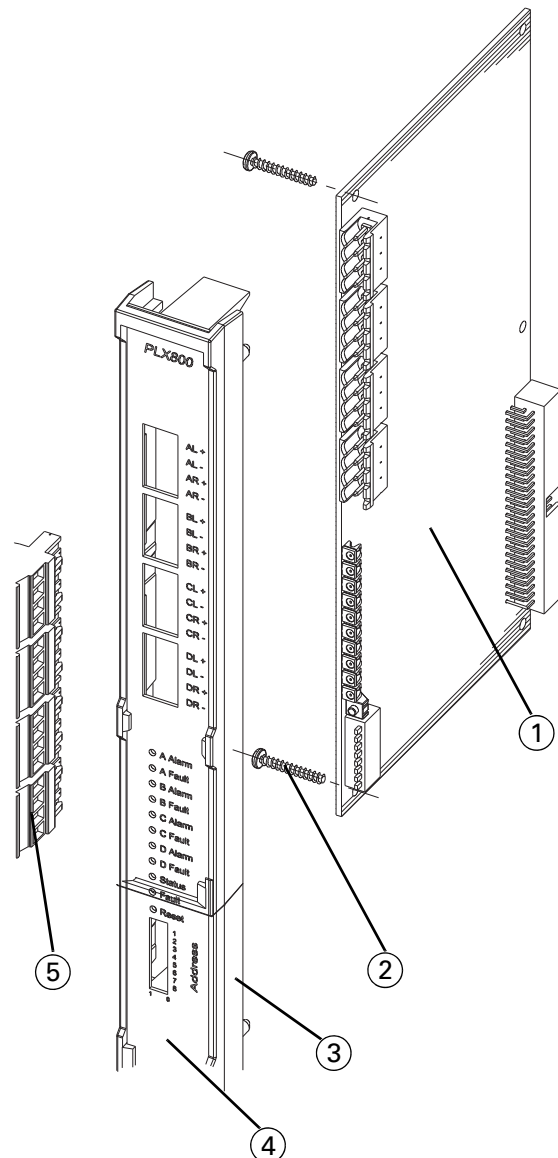

Fig. 24: Slot Card Assembly
- 1 Assemble the slot card components as shown in Fig. 24.